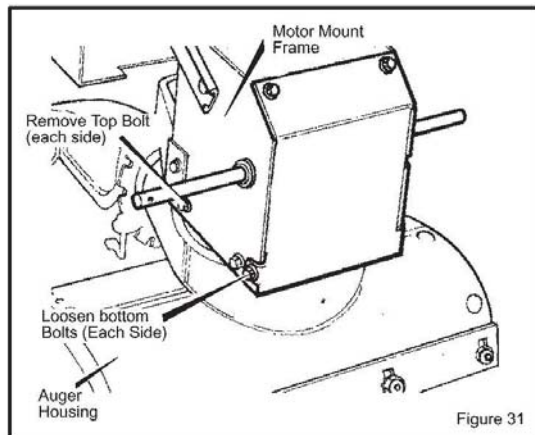

Figure 31
4. Remove top two bolts securing auger housing to motor mount frame. Loosen bottom two bolts. See Figure 31.
14. Replace top two bolts. Retighten bottom two bolts. See Figure 31.
17. Replace top two bolts. Retighten bottom two bolts. See Figure 31.